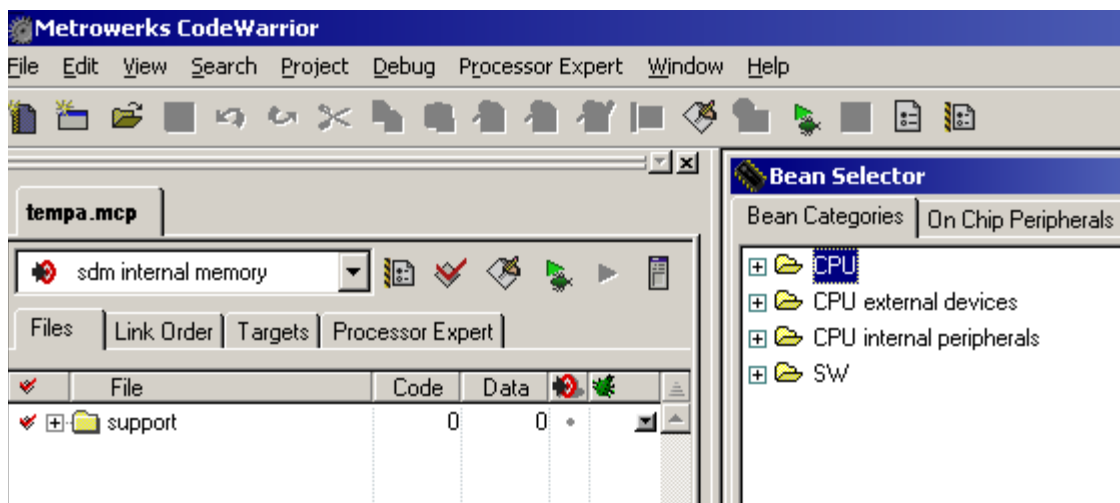

Figure 3-1. After Step One
In this section, Figures 3-1 through 3-8 correspond to the end position after following the first eight steps. The text above each figure is a more detailed description of the corresponding step.
- See Figure 3-1